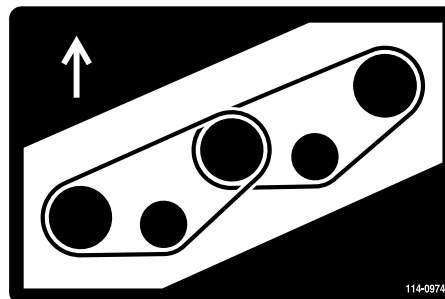
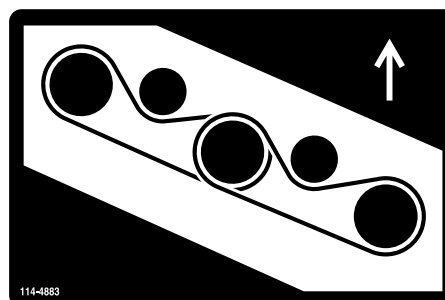

Figure 85
Figure 86
5. Route the new belt around the spindle pulleys and idler pulley assembly as shown in Figure 85 and Figure 86.